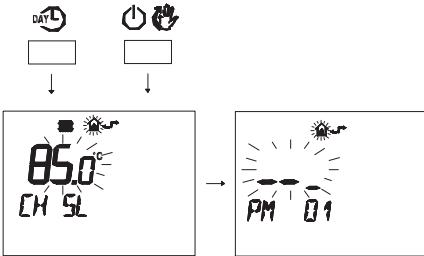

Fig. 7.29
- Press buttons **DAYL** and **ON/OFF** at the same time to enter transparent programming (Fig. 7.29).